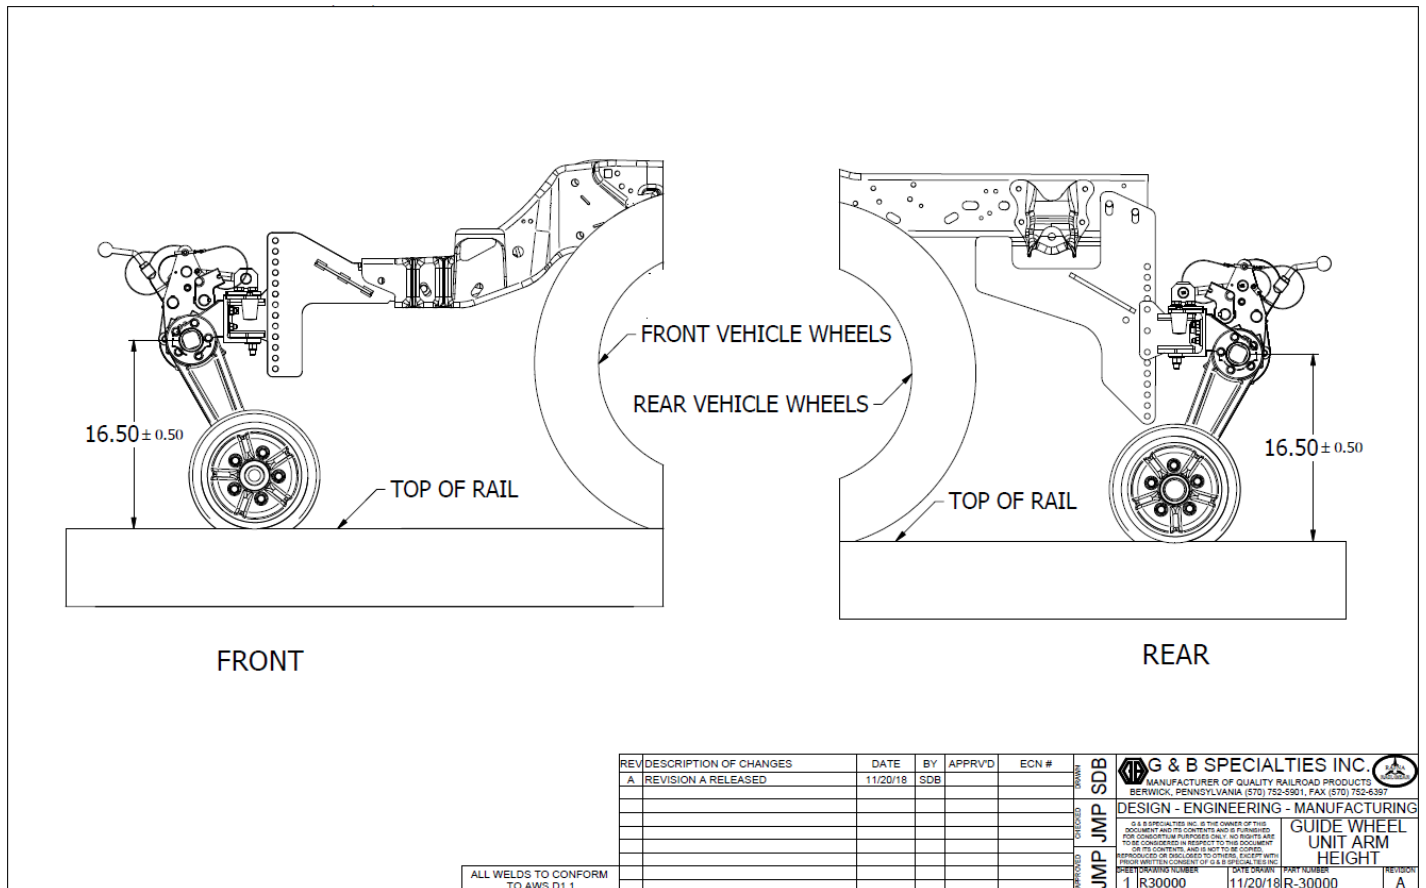

Figure 3-2
1. Figure 3-2 illustrates a side view of a typical R-307A Railgear application. Railgear unit mounts may vary in detail, depending on the vehicle.